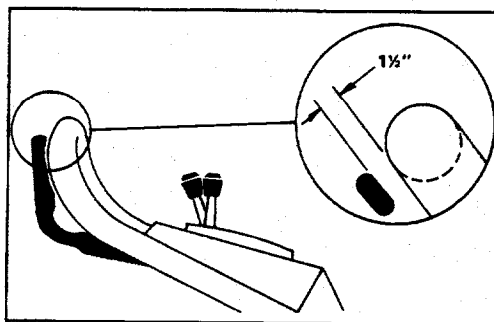

Figure 21
3. Lift control bar until some resistance is felt. Control bar should be 1 1/2" from handle when properly adjusted (Fig. 21).